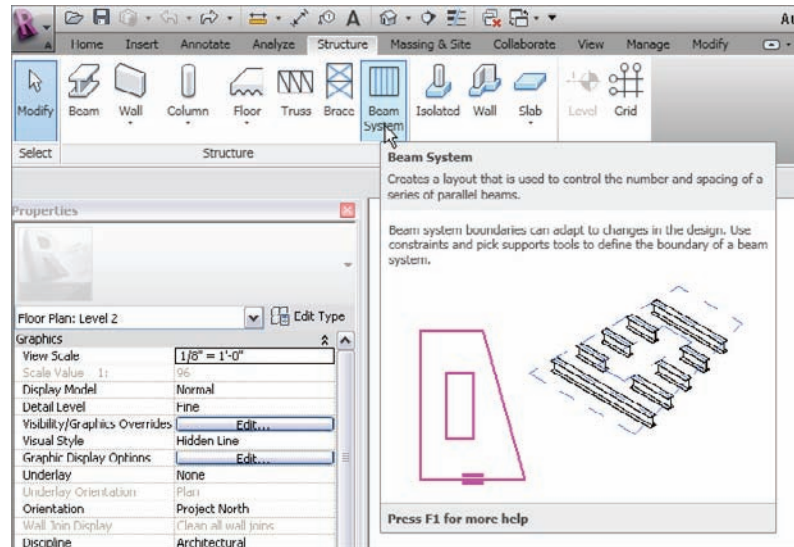

FIGURE 8.39 The Beam System button
- 1.** On the Structure panel of the Structure tab, click the Beam System button, as shown in Figure 8.39.